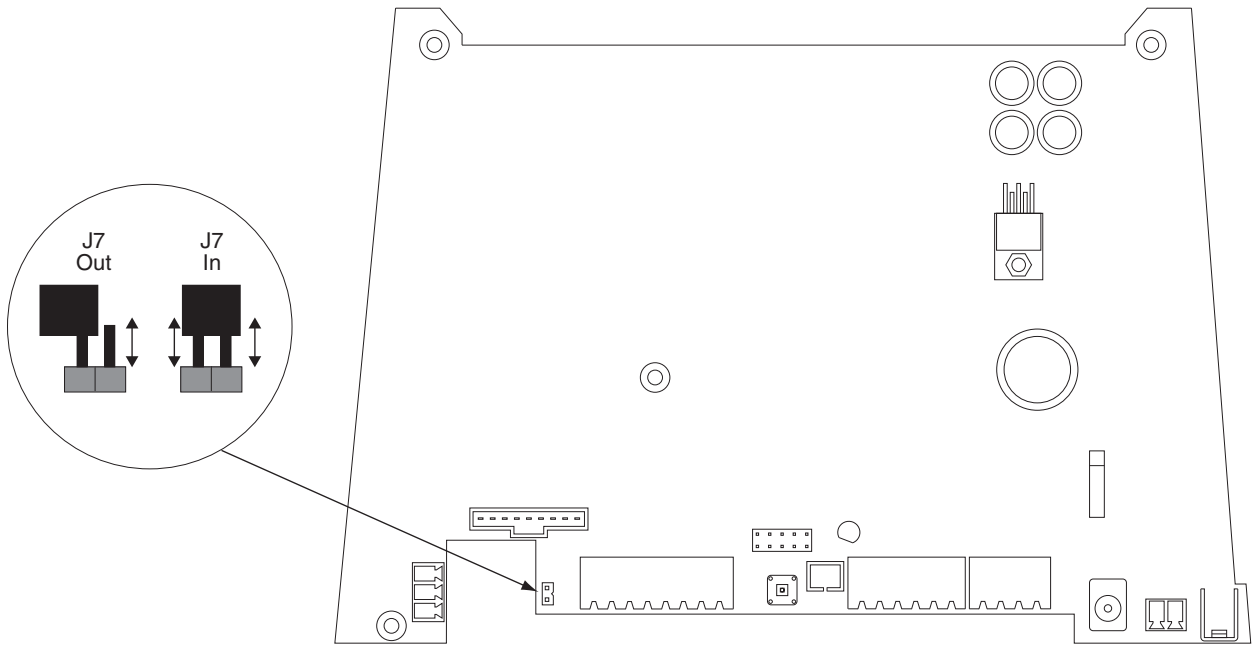

Figure 9
15. If not already removed, remove the J7 jumper from the main PCB. See figure 9 below.